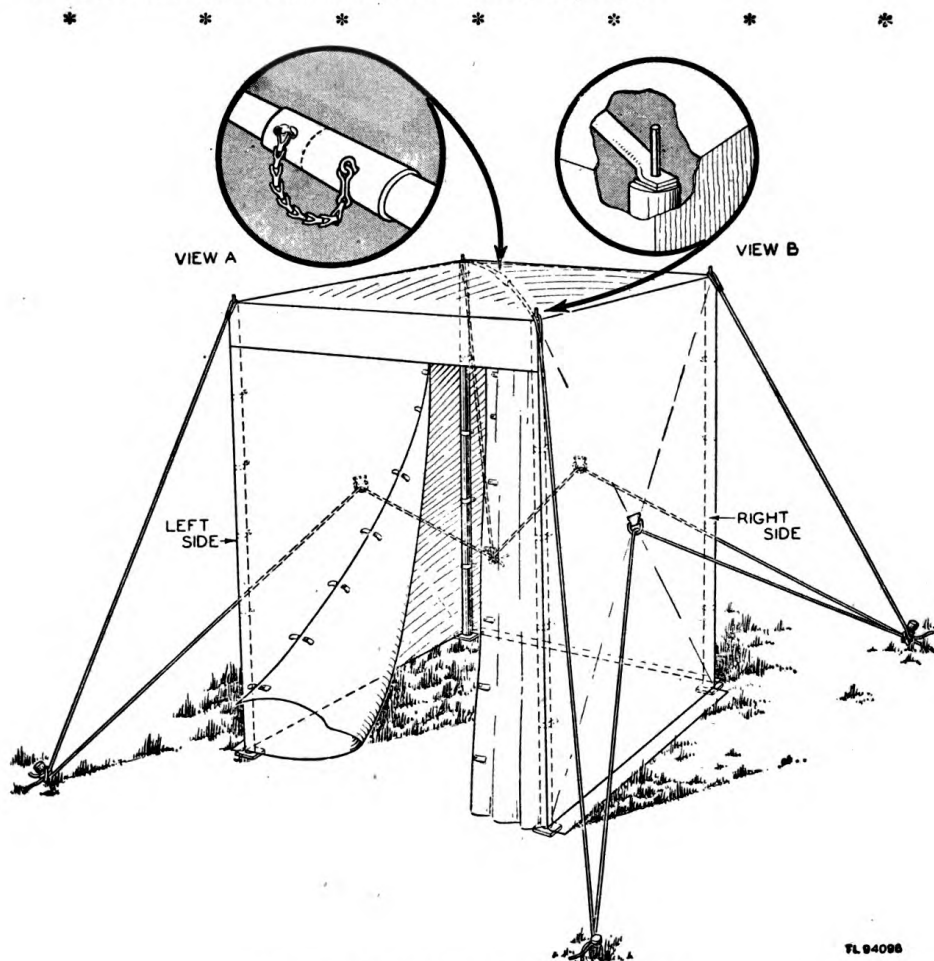

FIGURE 2. Inflation Shelter S-13/TM.
b. INFLATION SHELTER S-13/TM (fig. 2). Inflation Shelter S-13/TM is a portable balloon inflation shelter made of 8-ounce canvas duck which is mildewproofed and waterproofed. The shelter is * * * 9 feet (fig. 2). A D-ring is sewn to the canvas at the center of each side panel and the back panel. A 35-foot length of rope is provided to be cut into three lengths for threading through the D-rings and fastening to the corner stakes to prevent the sides and back from bowing inward.
(12) Cut three lengths of rope long enough to run from one corner stake through the D-ring on the side or back panel and to the other corner stake on the same side. Thread the ropes through the D-rings and tie the ends to the stakes just tightly enough to hold out the shelter walls (fig. 2).
(13) Finally, make the * * * sides and back.